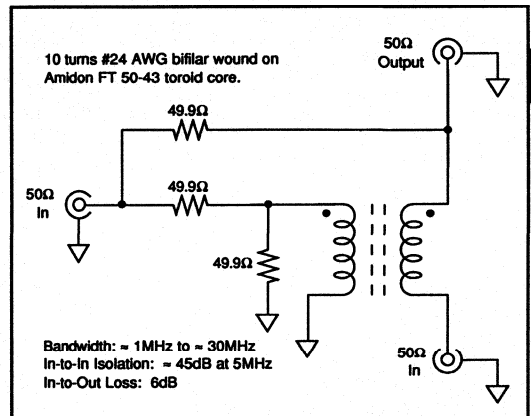
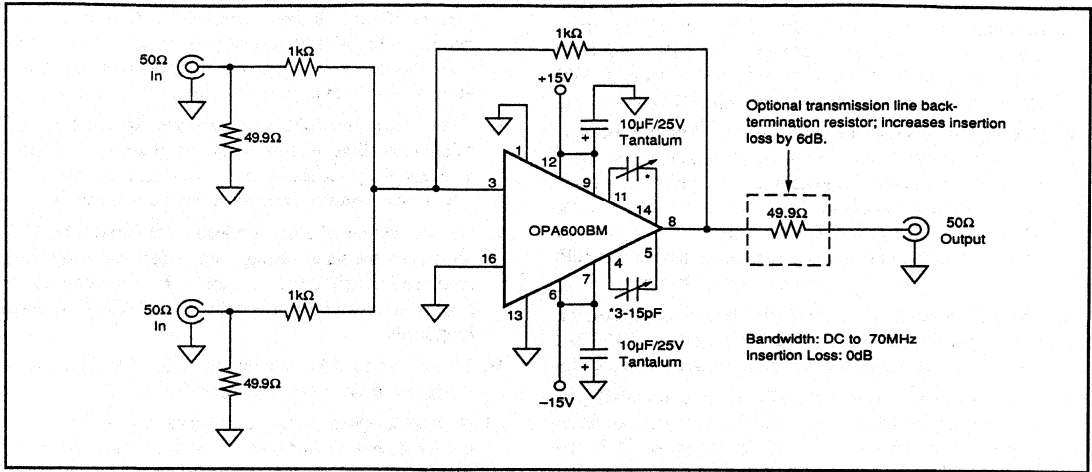

FIGURE 17. Passive Signal Combiner.
FIGURE 18. Active Signal Combiner.
7. Two-tone testing will require isolation between test signal generators to prevent IMD generation in the test generator output circuits. An active summing amplifier using an OPA600 is shown in Figure 18. This circuit will provide excellent performance from DC to 5MHz with harmonic and intermodulation distortion products typically better than  $-70\text{dBc}$ . A passive (hybrid transformer) signal combiner can also be used (Figure 17) over a range of about 0.1MHz to 30MHz. This combiner's port-to-port isolation will be  $\approx 45\text{dB}$  between signal generators and its input-output insertion loss will be  $\approx 6\text{dB}$ . Distortion will be better than  $-85\text{dBc}$  for the powdered-iron core specified. Avoid ferrites. The circuits shown in
Figures 17 and 18, have bandwidths beyond those required for the ADC601; therefore, they have even better performance at 500kHz. These combiners are always good additions to high-speed engineering labs.